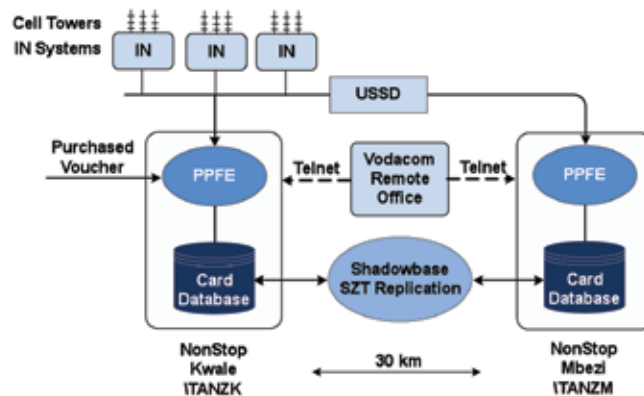

Figure 1 - PPFE Architecture
A simplified overview of how cell calls are handled is shown in Figure 1. In this figure, cell phone subscribers connect to the Vodacom cellular network via Intelligent Network (IN) systems. Each subscriber is assigned an IN based on the first digits of his telephone number. Each cell phone tower connects to an IN. Various information is collected about a cell phone user (such as the number of minutes he has left in his account, and the
If the PPFE experiences an outage, subscribers will not be able to add minutes to their accounts. Cell phone service will become unavailable to subscribers once their balance is exhausted. Therefore, the PPFE is implemented as a dual HP NonStop server pair using a bi-directional Shadowbase SZT data replication configuration, where one system is the production system and handles all transactions (see Figure 1). However, the backup system is actively running the PPFE application and is ready to take over in seconds if the production system fails. Its database is kept synchronized with the production system by the Shadowbase data replication engine from Gravic, Inc. (www.gravic.com/shadowbase).⁵